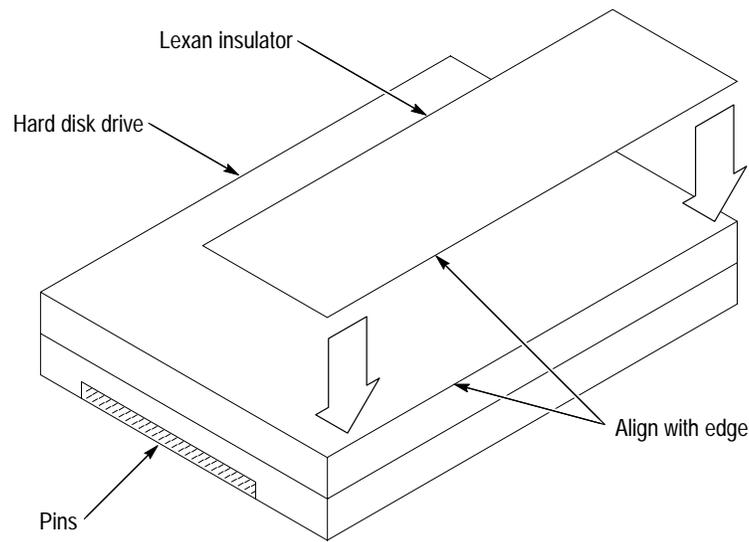

Figure 11: Applying the Lexan insulator
1. Peel the backing off of the Lexan insulator included in the kit and apply it to the hard disk drive. (See Figure 11.)